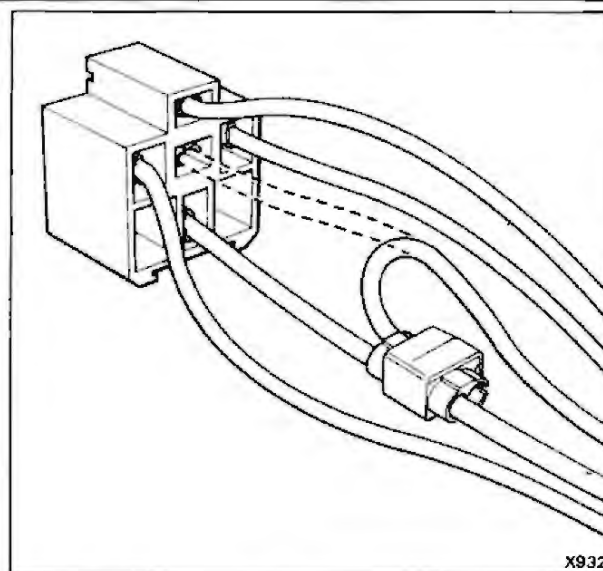

Fig. 6
- 9 Locate the aerial relay mounted beneath the fuseboard. Modify the relay wiring, using the blue connector supplied in the fitting kit (see fig. 6).